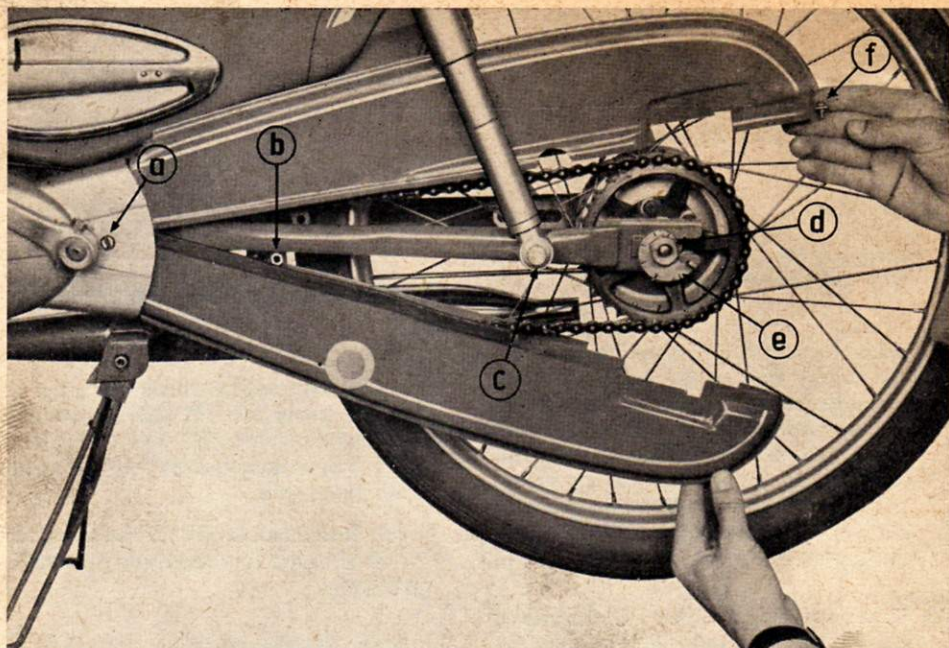

Fig. 75 Removing chain guard
1. Loosen cheesehead screw "a", fig. 75 (up to frame No. 01 512 156), remove hexagonal screw "b" and spring ring with a box spanner (SW 10) from the right hand side.